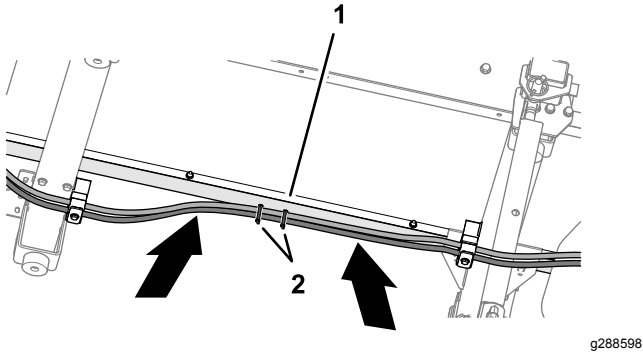

Figure 24
- Between the front and center cross members, route the hoses against the right frame rail (Figure 24).
- Secure the hoses to the holes in the frame rail with 2 cable ties (Figure 24). When attaching the hose, ensure that there is proper tension on the hoses.